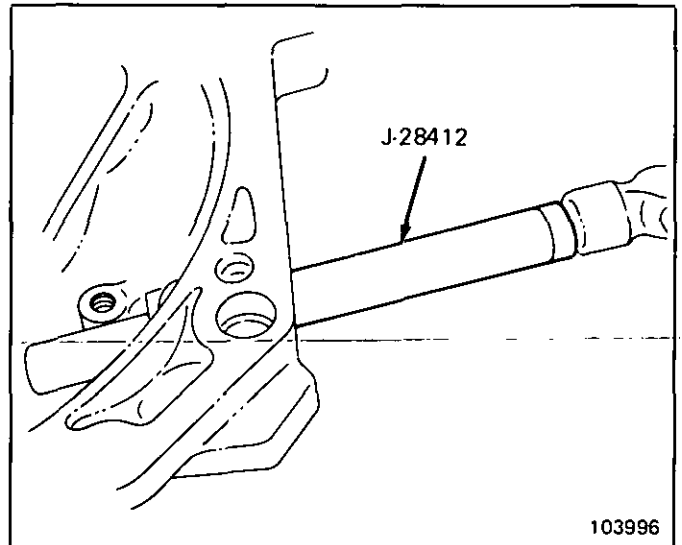

Figure 52 Clutch Shaft Bushing
27. Install the clutch fork assembly if it has been removed. Install the bushing into the upper hole using J-28412 (Figure 52). Install the oil seal next using J-28406.